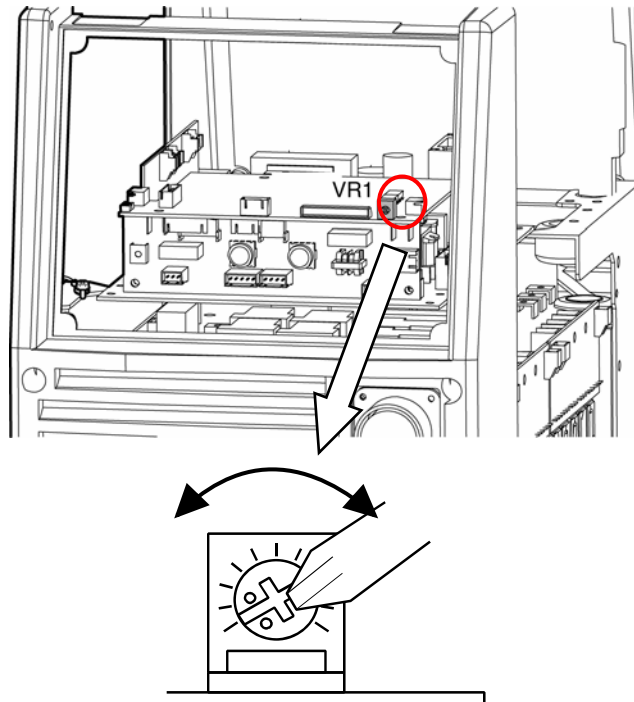

Figure 13. VRD ON/OFF Step D
d) Turning the VRD ON/OFF. (see Figure 13)